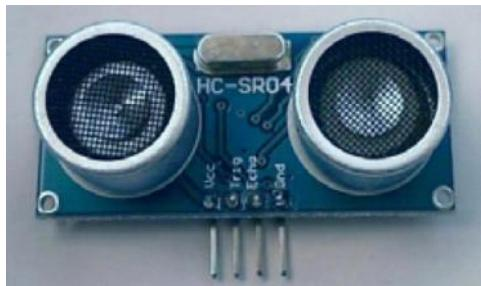

Figure 8.3 – The HC-SR04
*Figure 8.3* shows the HC-SR04, a common and inexpensive sound-based distance sensor: